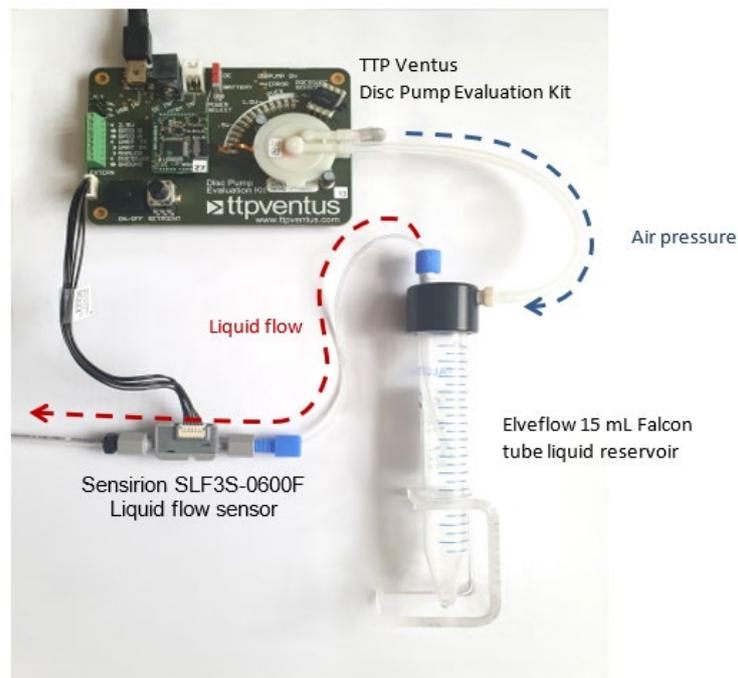
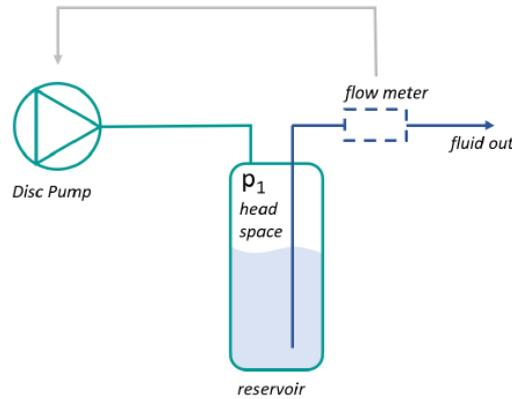

Figure 3: System components
Figure 4: System schematic
- Connect the components together per the schematic (Figure 4) and system photograph (Figure 3).